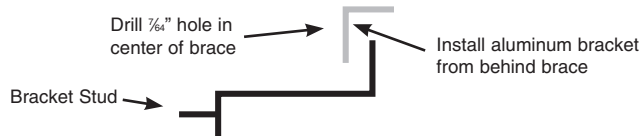
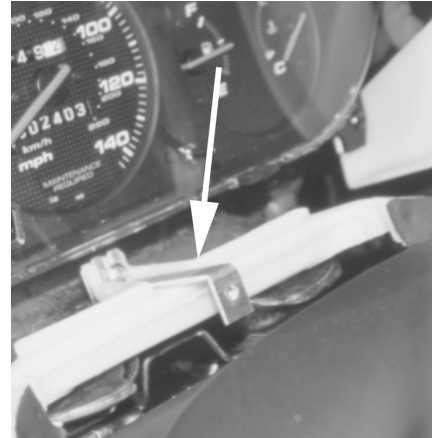

Fig. 1 - Bracket installation for Acura Integra
Fig. 2 - Bracket installed on Honda Civic
2. **Acura Integra** - Drill $\frac{7}{64}$ " hole in the plastic cross member. Install aluminum bracket (Fig. 1). Bracket stud should align with hole in lower center of gauge bezel.
- Honda Civic** - Remove bottom center screw from gauge cluster housing. Reinstall screw and supplied aluminum bracket (Fig. 2).
5. Attach bottom of bezel to aluminum bracket using supplied hardware. (See figure 1 for Acura, or figure 2 for Honda)